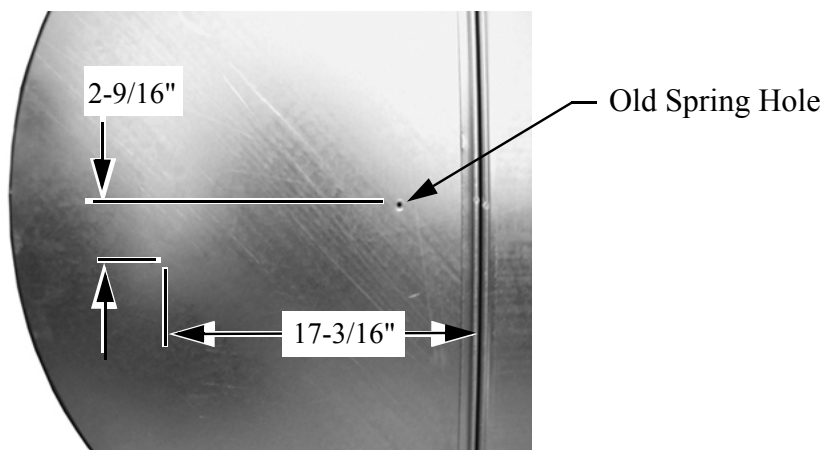

Figure 2. Drilling new Hole in Door
4. Drill a $\frac{3}{32}$ " hole $17\frac{3}{16}$ " from the edge of the Door, and $2\frac{9}{16}$ " below the old Spring hole on each Door. (See **Figure 2** below). This hole is for the new Spring.
7.Hook the rounded ends of the new Springs (Included in Kit) onto the Spring Mounting Bracket. Stretch the Springs out and hook them onto the 3/32" hole that you drilled in **Figure 2**. Repeat the same for the second Door.